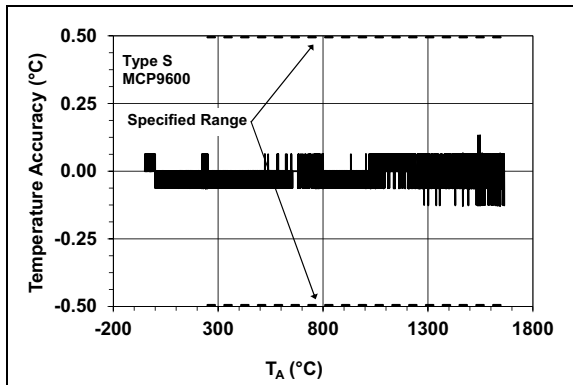

FIGURE 2-7: Typical Temperature Accuracy from NIST ITS-90 Database, Type S.
- 3:** The device measures temperature below the specified range, however, the sensitivity to changes in temperature reduces exponentially. Type R and S measure down to $-50^{\circ}C$, or $-0.226 mV_{EMF}$ and $-0.235 mV_{EMF}$, respectively. Type B measures down to $500^{\circ}C$ or $1.242 mV_{EMF}$ (see Figures 2-7, 2-8, 2-10, 2-11, 2-14 and 2-17).
- 3:** The device measures temperature below the specified range, however, the sensitivity to changes in temperature reduces exponentially. Type R and S measure down to $-50^{\circ}C$, or -0.226 mV_{EMF} and -0.235 mV_{EMF} , respectively. Type B measures down to $500^{\circ}C$ or 1.242 mV_{EMF} (see Figures 2-7, 2-8, 2-10, 2-11, 2-14 and 2-17).